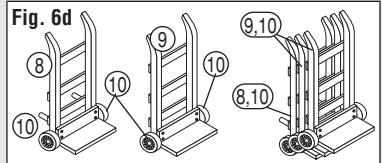

Fig. 6d
- Glue Wheels x6 (10) onto Handcart (8) and Handcarts x2 (9). Glue Handcart Assemblies x2 (9,10) onto Handcart Assembly (8,10) (Fig. 6d).